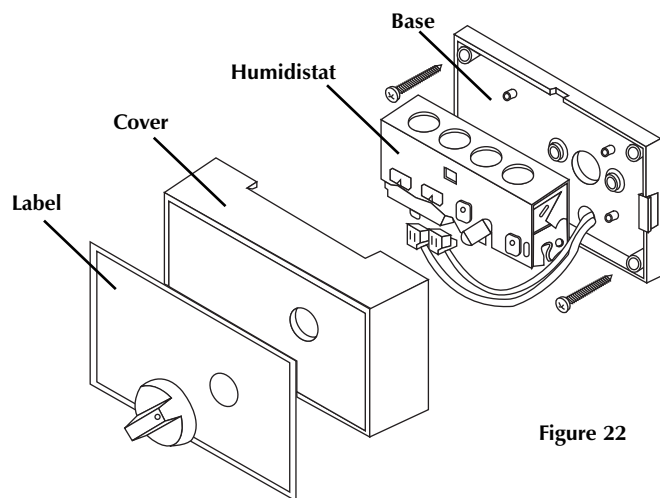

Figure 22
7. From the humidistat assembly included with your unit remove the humidistat. Gently pull off the knob and label, and remove the humidistat cover (fig 22)
7. Returning to the humidistat location, remove the cover plate from the humidistat. Feed the 6" of low voltage wire through the 3/8" hole in the humidistat base plate. Mount the humidistat to the wall using four screws provided in the humidistat kit (fig 22).